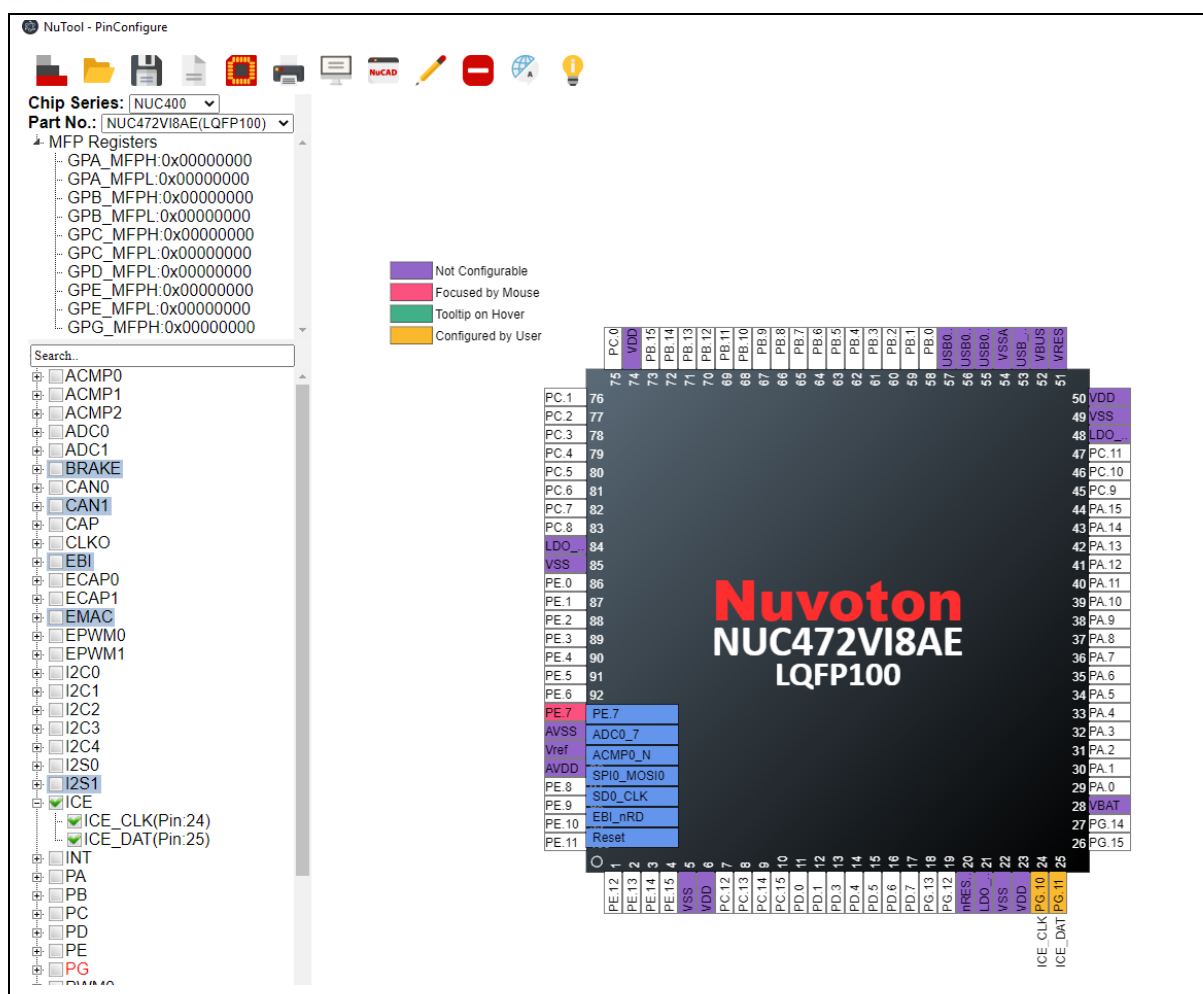

Figure 4-11 List of All the Related GPIO Multi-functions
1. Move the mouse cursor to the expected pin and click on the left button of the mouse. Then the list of all the related GPIO multi-functions will emerge in the vicinity of the pin (referring to Figure 4-11).